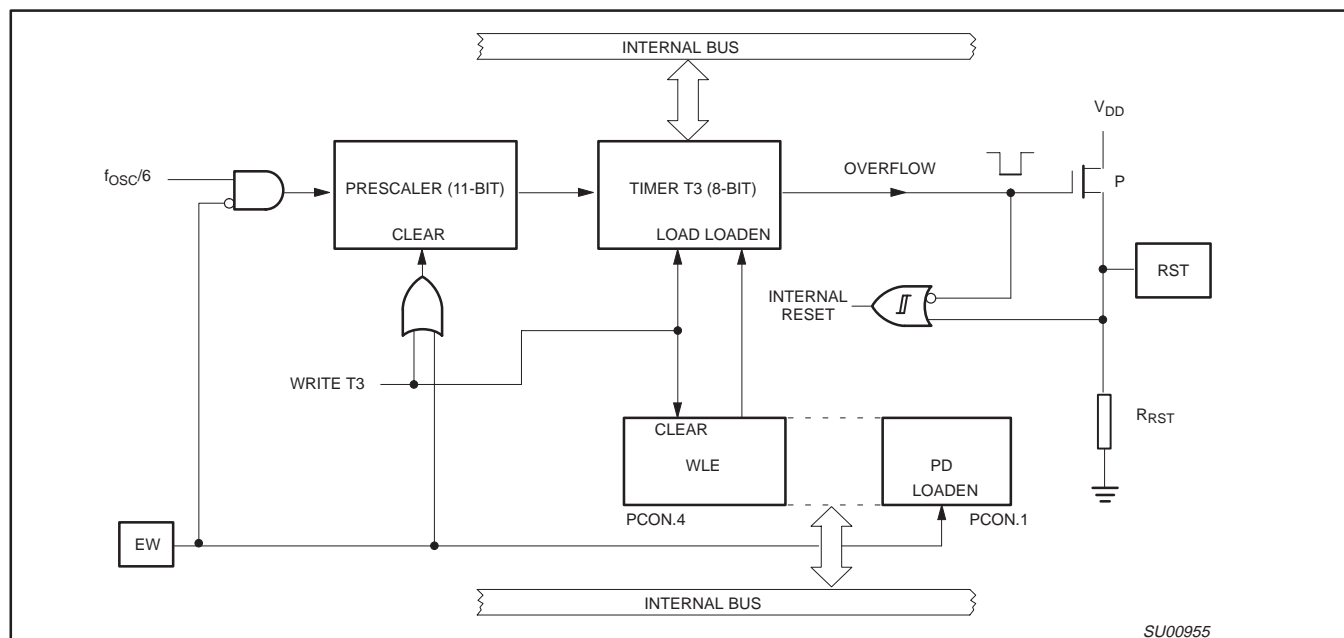

Figure 17. Watchdog Timer
**Watchdog Circuit Description:** The watchdog timer (Timer T3) consists of an 8-bit timer with an 11-bit prescaler as shown in Figure 17. The prescaler is fed with a signal whose frequency is 1/12 the oscillator frequency (1MHz with a 12MHz oscillator). The 8-bit timer is incremented every "t" seconds, where: